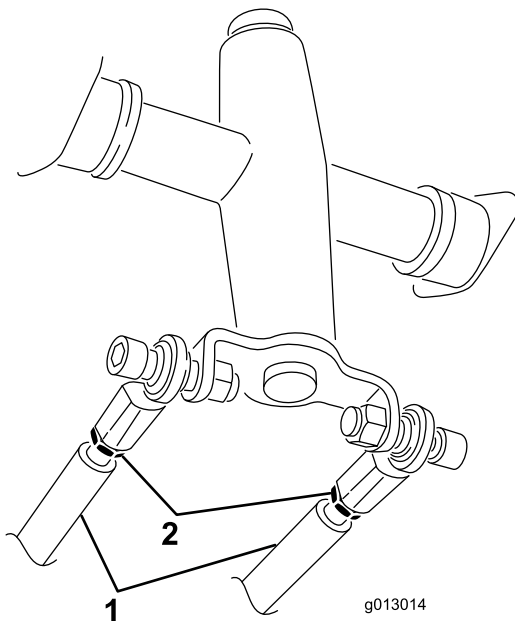

Figure 53
- Loosen the jam nuts on the traction rods, under the control panel (Figure 53).